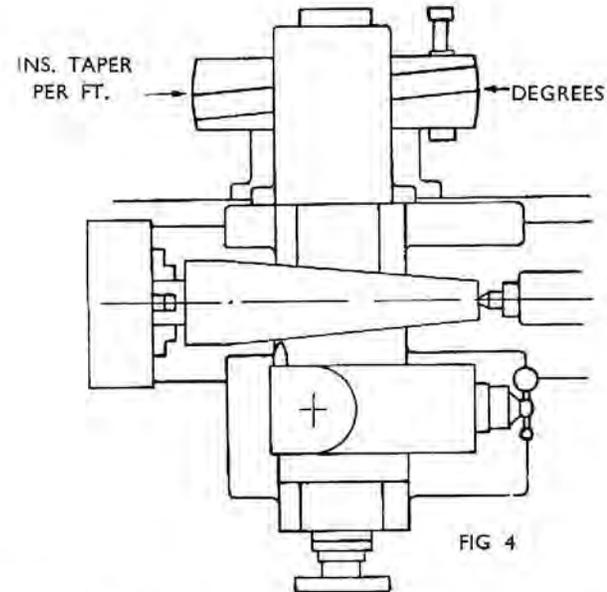

FIG 4
(3) If the lathe is fitted with a taper turning attachment, fig. 4, then more accurate tapers, either external or internal, can be produced than by the two preceding methods. By the use of this attachment, the lathe centres are not of course taken out of alignment, so that the bearing surfaces are unaffected.